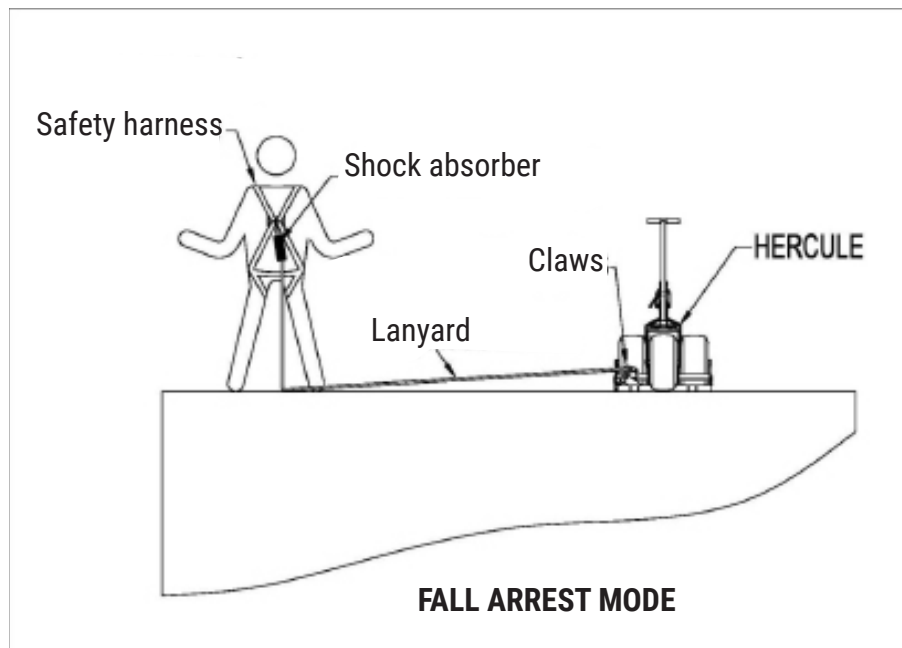

Fig. 3
- NOTE: sharp edges must be protected in such a way to avoid damage to the vertical lifelines or lanyards. The user must install protector cushions on all sharp edges. (See fig. 3)